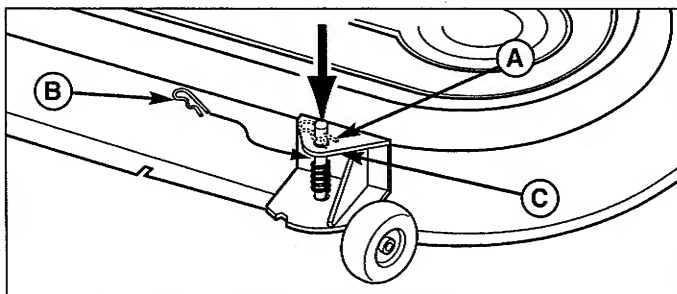

Figure 49. Gauge Wheel Adjustment
1. Remove the hair pin clip (A, B, Figure 49).
2. For upper position, install the pin (A) through the spindle above the bracket (C). For the lower position, push down on the top of the spindle, and install the hair pin clip (B) below the top of the bracket (C).